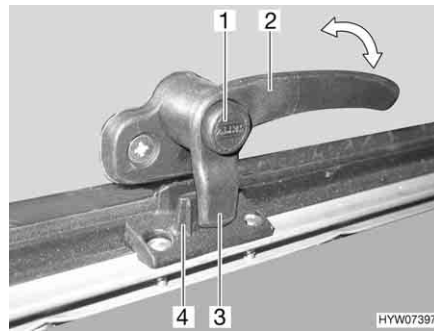
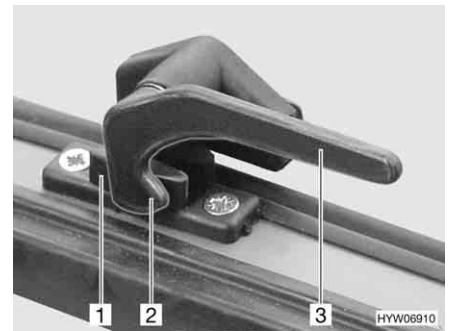

Fig. 76 Catch lever with safety knob in "closed" position
Fig. 77 Catch lever in "closed" position
- Press and hold the security button (Fig. 76,1), if present.
- Turn the catch lever (Fig. 76,2 or Fig. 77,3) a quarter turn towards the centre of the window.
- Turn the catch lever (Fig. 76,2 or Fig. 77,3) a quarter turn towards the window frame. The locking catch (Fig. 76,3 or Fig. 77,2) on the catch lever is entirely on the inner side of the window catch (Fig. 76,4 or Fig. 77,1).
- Firmly closed (Fig. 76 and Fig. 77)